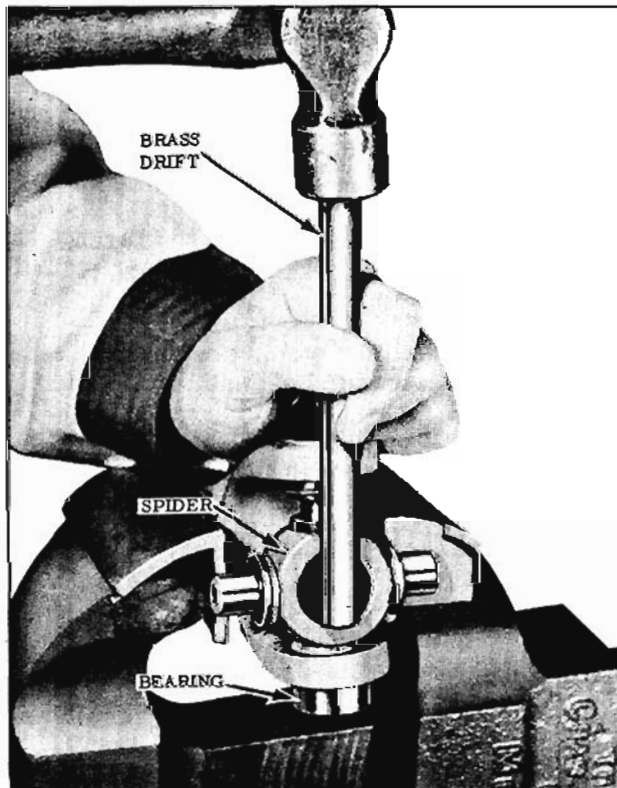

Fig. 10-5 Partial Bearing Removal (Saginow)
8. Drive on spider until bearing is partially forced out of yoke. (Fig. 10-5)